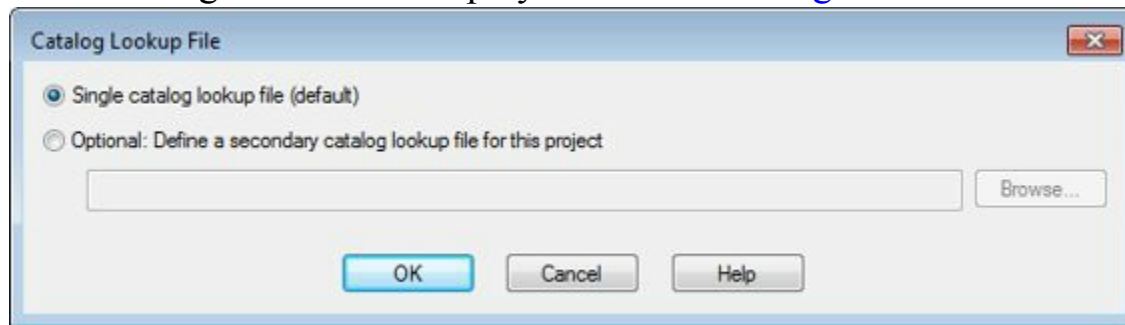

Figure-11. Catalog Lookup File dialog box
- To set a user defined database, click on the **Other File** button in this area. The **Catalog Lookup File** dialog box will be displayed as shown in Figure-11.